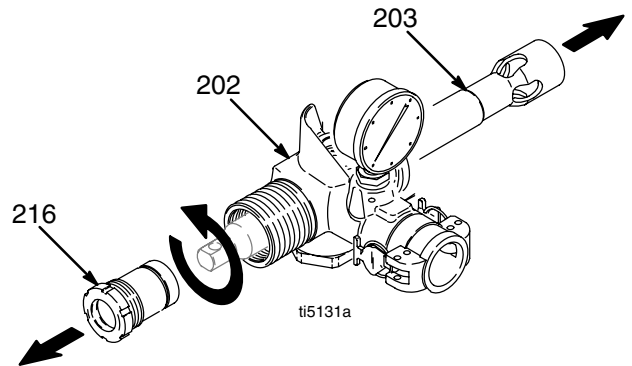

Fig. 13
5. Fig. 13. Remove packing nut (216). Push piston rod (203) from outlet housing (202).